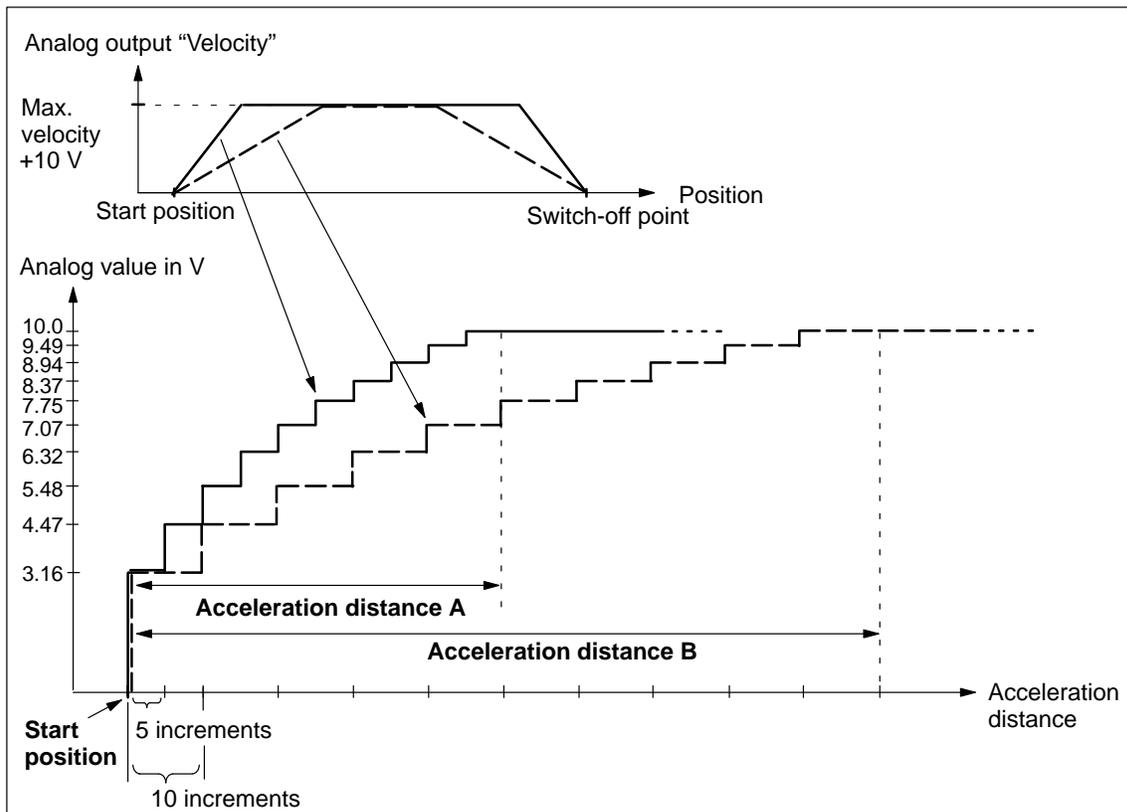

Figure 6-14 Analog Value Output in Steps, BREAK = 0
Figure 6-14 shows the analog values after the start of two positioning operations. In the enlarged view of the acceleration distances, you can see that the curves each consist of 10 steps of equal width and different height.
**Stopping Distance** The analog values for the stopping distance are output in the same 10 steps as for the acceleration distance (see Figure 6-14). The switch-off point is reached at the end of the last step (= 3.16 V).
Below are two examples of calculating the step width. The resulting analog value outputs are shown in Figure 6-14. The acceleration/stopping distances have been parameterized with *STEP 7*.